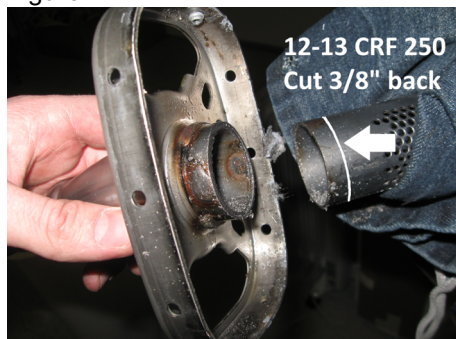

Figure 5
11. Clean any contaminants off of the inner core and apply high temperature RTV silicone to the outside end of the inner core. Identify the end of the inner core spacer with the deeper recess, this end must be installed onto the inner core or the assembly will not fit together properly. Slide the end of the inner core spacer onto the inner core and clean up excess silicone. **Figure 5**.